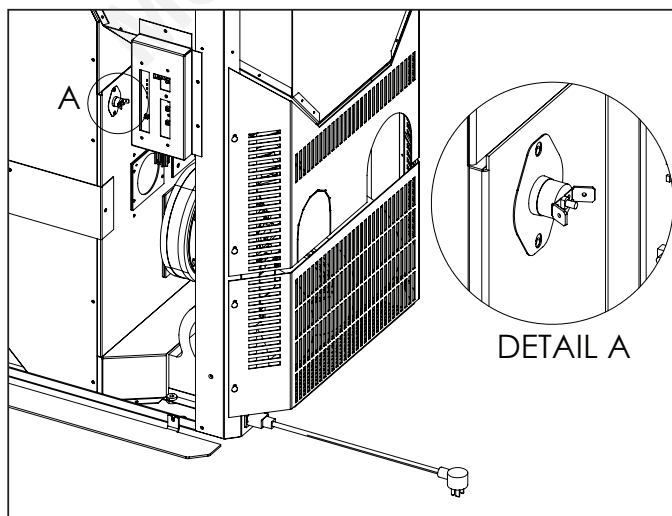

Figure 22: High Limit Switch Detail
- The grey wires will be wired inline with the High Limit Switch located at the back of the hopper. Disconnect one of the orange wires already attached to the High Limit, now attach one of the grey wires from the HDK to the wire you just disconnected. The other grey wire from the HDK will connect to the High Limit Switch, see figure 22 for high limit location.